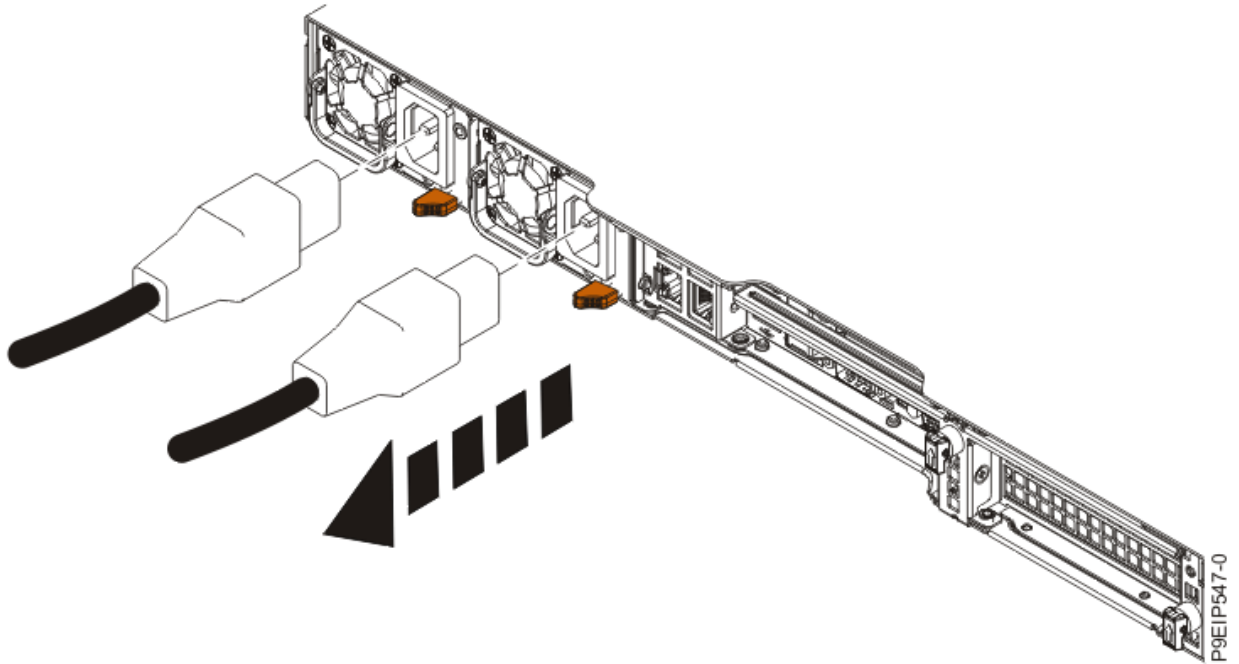

Figure 81. Removing the power cords from the system
2. Label and disconnect the power cords from the system unit as shown in Figure 81 on page 104.